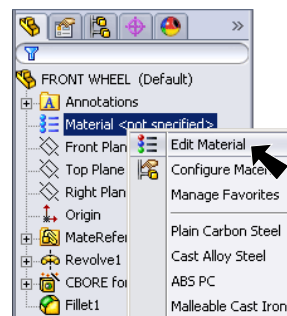

Fig. 18
Step 1. **Right click Material**  in the Feature Manager and click **Edit Material**, Fig. 18.